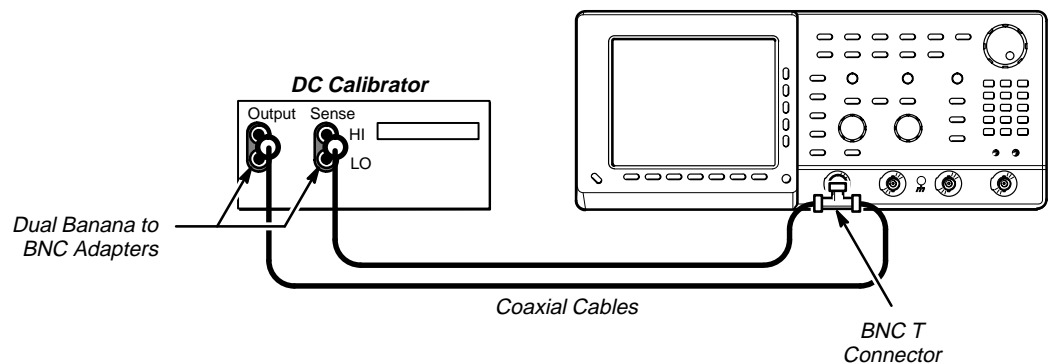

Figure 1-24: Subsequent Test Hookup
- Connect the output of a DC calibration generator through a dual-banana connector followed by a 50 Ω precision coaxial cable to one side of a BNC T connector (see Figure 1-24).